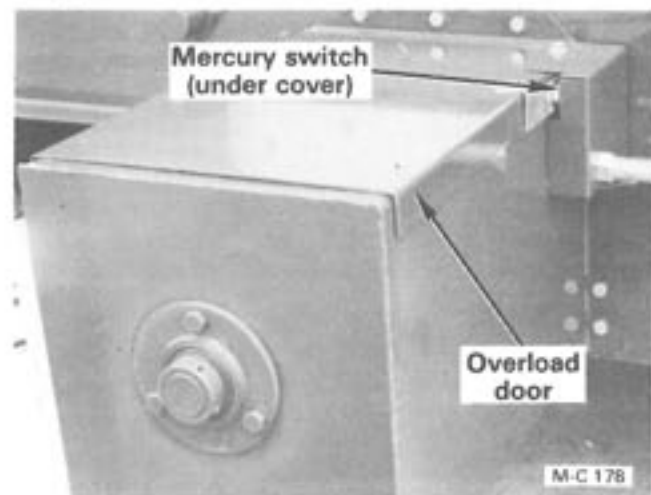

Figure 13
- If the customer supplied grain take away system fails, the dryer will continue to discharge grain until the rear discharge overload door, Figure 13, is raised by the grain.